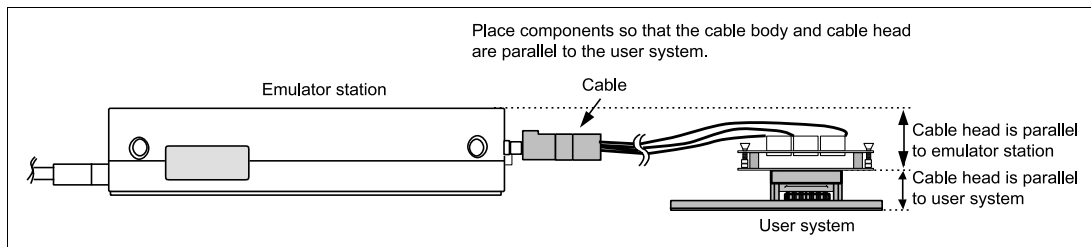

Figure 11 User System Interface Cable Location Example
5. While the emulator station is connected to the user system with the user system interface cable, force must not be applied to the cable head. Place the emulator station, user system interface cable, and user system as shown in the example in figure 11.